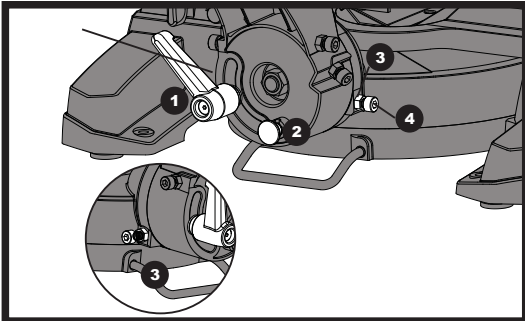

Fig 22
- 1) Twist and deploy sprung-loaded crown moulding pin (2).
- 2) Loosen the bevel lock handle (1) and rotate the cutting head in the required direction until it indexes with the moulding pin (2). Tighten the bevel lock. (See fig. 22)
- 2) If adjustment is required loosen the locknut (3) to the relevant socket headed stop screw. Adjust the screw in or out until the correct bevel angle is achieved. Retighten the locknut. (See fig. 22)